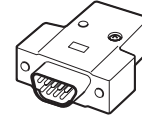

Fig. 1-5
- RS232/485 RTN (Part Number : YWA0EA1202AN) for RS232C/485 Connector as shown in fig. 1-5.